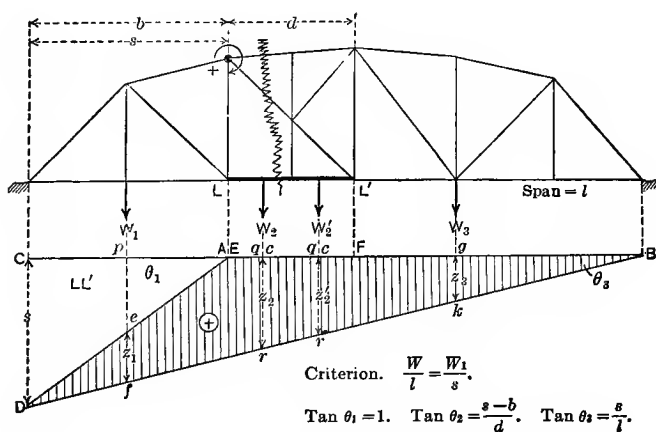

FIG. 17.
**Bottom Chord of Sub-hanger Truss.**—This case follows the general rule for simple trusses. The influence diagram is shown in Fig. 17.